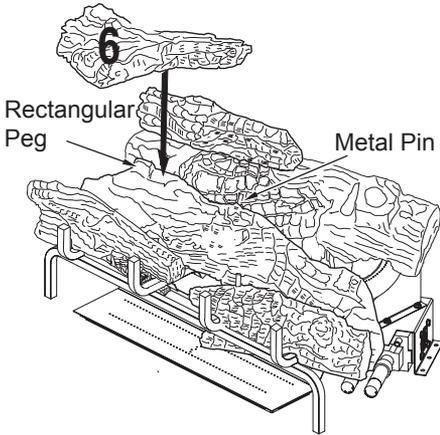

Figure 49 - Installing Log # 6
- Place the left top forked log (#6) on the top of the middle log (#2). Match the rectangular projection on top of the middle log (#2) with the rectangular hole on the bottom of the left top forked log (#6). Match the metal pin on the top of the middle log (#2) with the round hole in the bottom of the left top forked log (#6). See Figure 49, page 24.